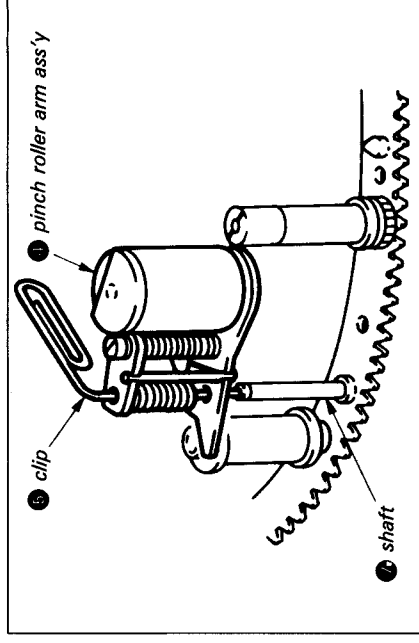

Fig. 7-22.
- 3) Push the end of the clip ④ through to contact the loading ring assembly shaft ⑦ and mount the pinch roller arm assembly ①. (See Fig. 7-22, 7-23.)